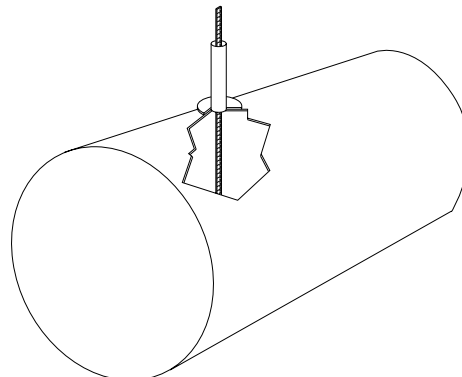

Figure 3.6 Measuring tank
- 6: Measure the distance from the bottom of the tank to the top of the 4-in. riser pipe shown in figure 3.6.